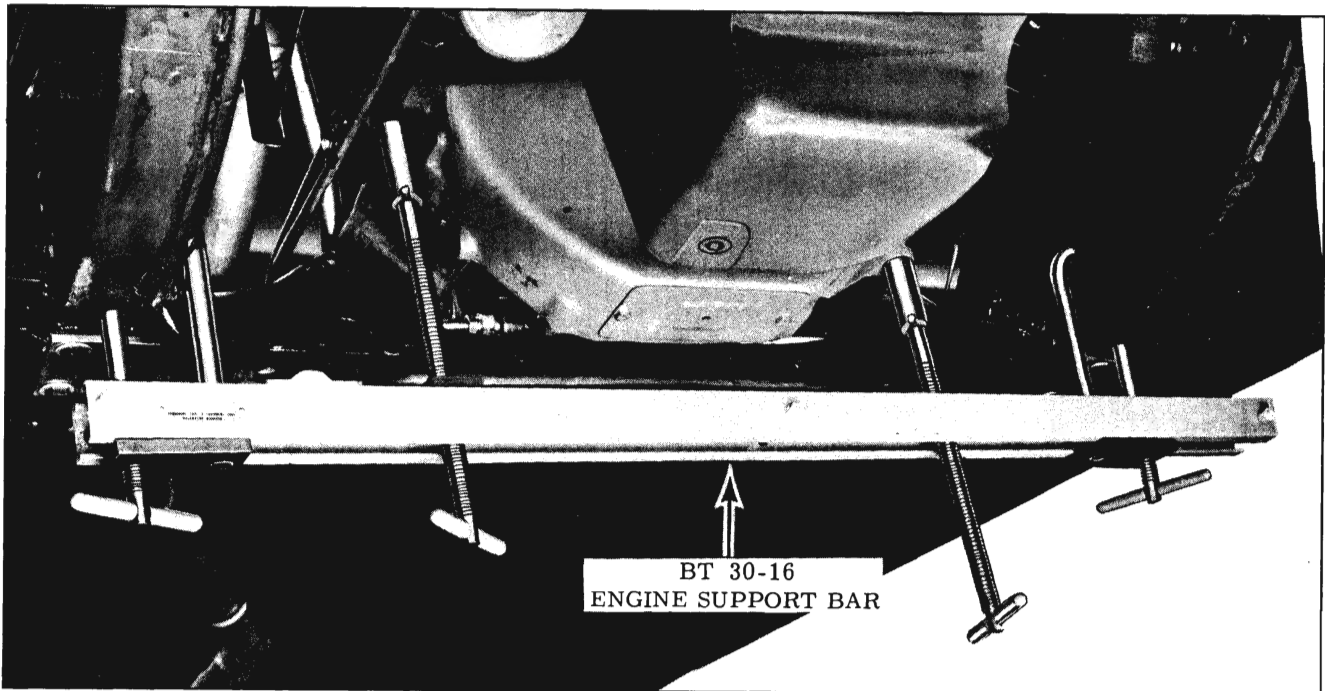

Fig. 3-18 Engine Support Bar
5. Install engine support bar. (Fig. 3-18)